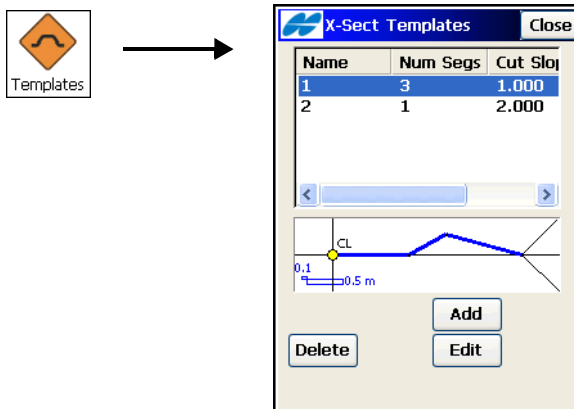

Figure 7-25. X-Sect Templates
The *X-Sect Templates* screen (Figure 7-25) displays a list of the existing templates in the upper part of the screen and a plot of the highlighted template in the lower part.
To edit an existing template, highlight it and tap the **Edit** button in the *X-Sect Templates* screen (Figure 7-25 on page 7-26).
- **OK** – saves the changes and returns to the ***X-Sect Templates*** screen (Figure 7-25 on page 7-26).